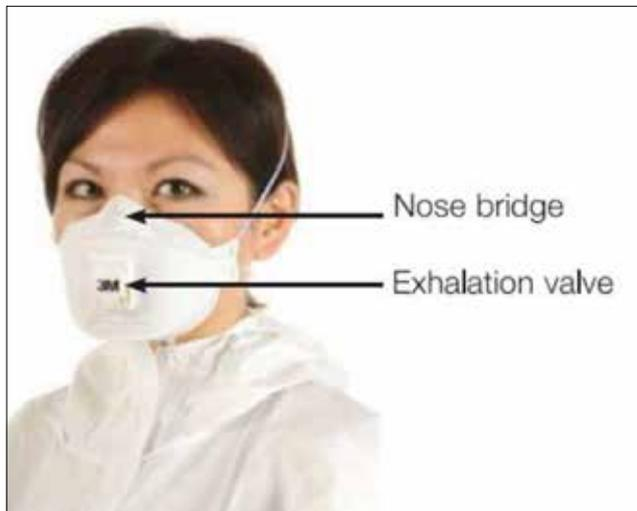

Figure 6 Disposable half-mask respirator
facepiece (FF) or orinasal respirator (see Figure 6). These are unpowered and can make breathing more difficult so are not suited to tasks with high work rates or of long duration (more than 1 hour).